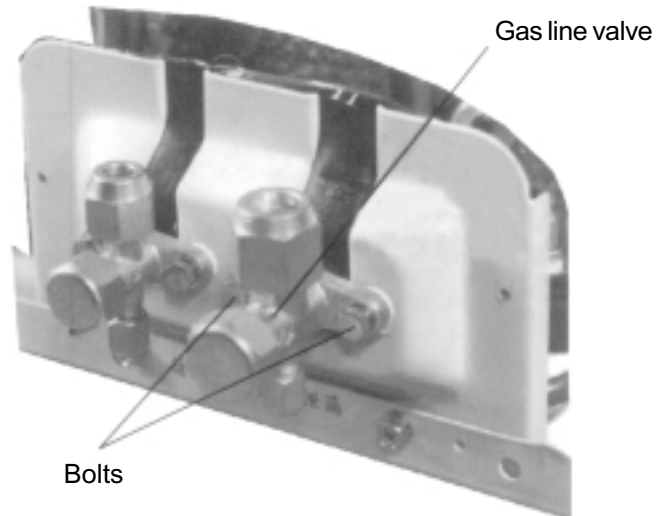

Figure 42
- ⑦ Disassemble the gas line valve
- Unsoldering the soldering location connecting the gas line valve with suction tube, remove the gas line valve as shown in figure 42.